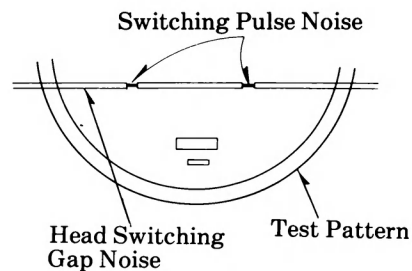

Fig. 81
3. Adjust screw (b) (Fig. 78 or Fig. 81) so that the head switching gap noise becomes minimum as shown in Fig. 81.